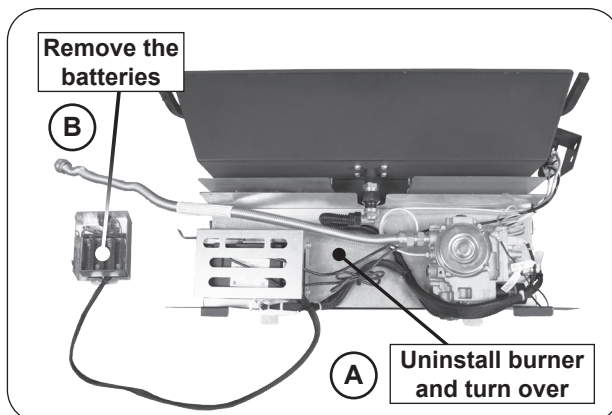

Fig. 1-1 Gain access to burner & remove batteries
2. Remove the burner system from the fireplace and turn it over. Then remove the batteries. See Fig. 1-1.